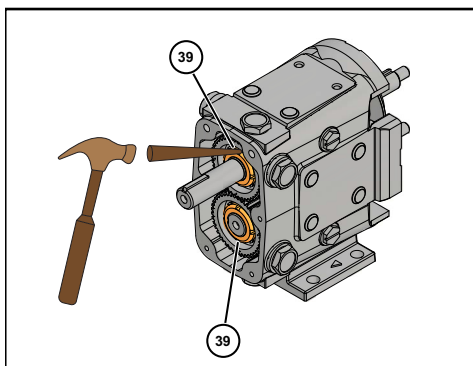

Figure 65 - Bend Lock Tab on Lock washers
7. Bend the locking tab on the lock washers into the locking nut slots, securing the gear locknut into place (Figure 65).